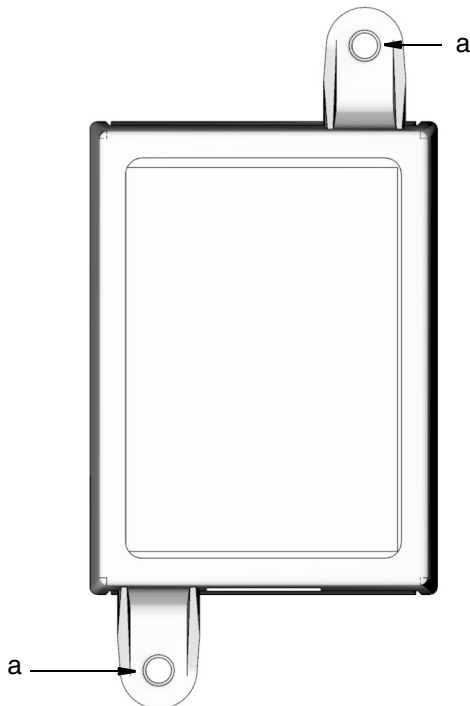

FIG. 3
2. Align junction box with predrilled holes (FIG. 3, (a)). Use two screws (not provided) to secure junction box to mounting surface.